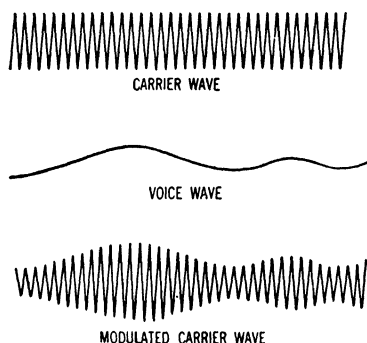

Fig. 40.7. Illustrating modulation.
(See Sec. 202.) In Figure 40.7 the high-frequency (500 to 1600 kilocycles per second for commercial broadcasting) carrier wave is shown, then the voice wave, and finally the modulated
carrier wave which results from the combination of the carrier wave and the voice wave. When the station is on the air, the carrier wave is sent out continuously from the antenna. When sound energy generates current in the microphone circuit, a modulated carrier wave is sent out. The type of modulation shown in Figure 40.7 is known as *amplitude modulation* (AM) and is the type of modulation which is used extensively at the present time in commercial broadcasting. Another type of modulation is known as *frequency modulation* (FM). Here the voice current changes the frequency rather than the amplitude of the carrier wave.